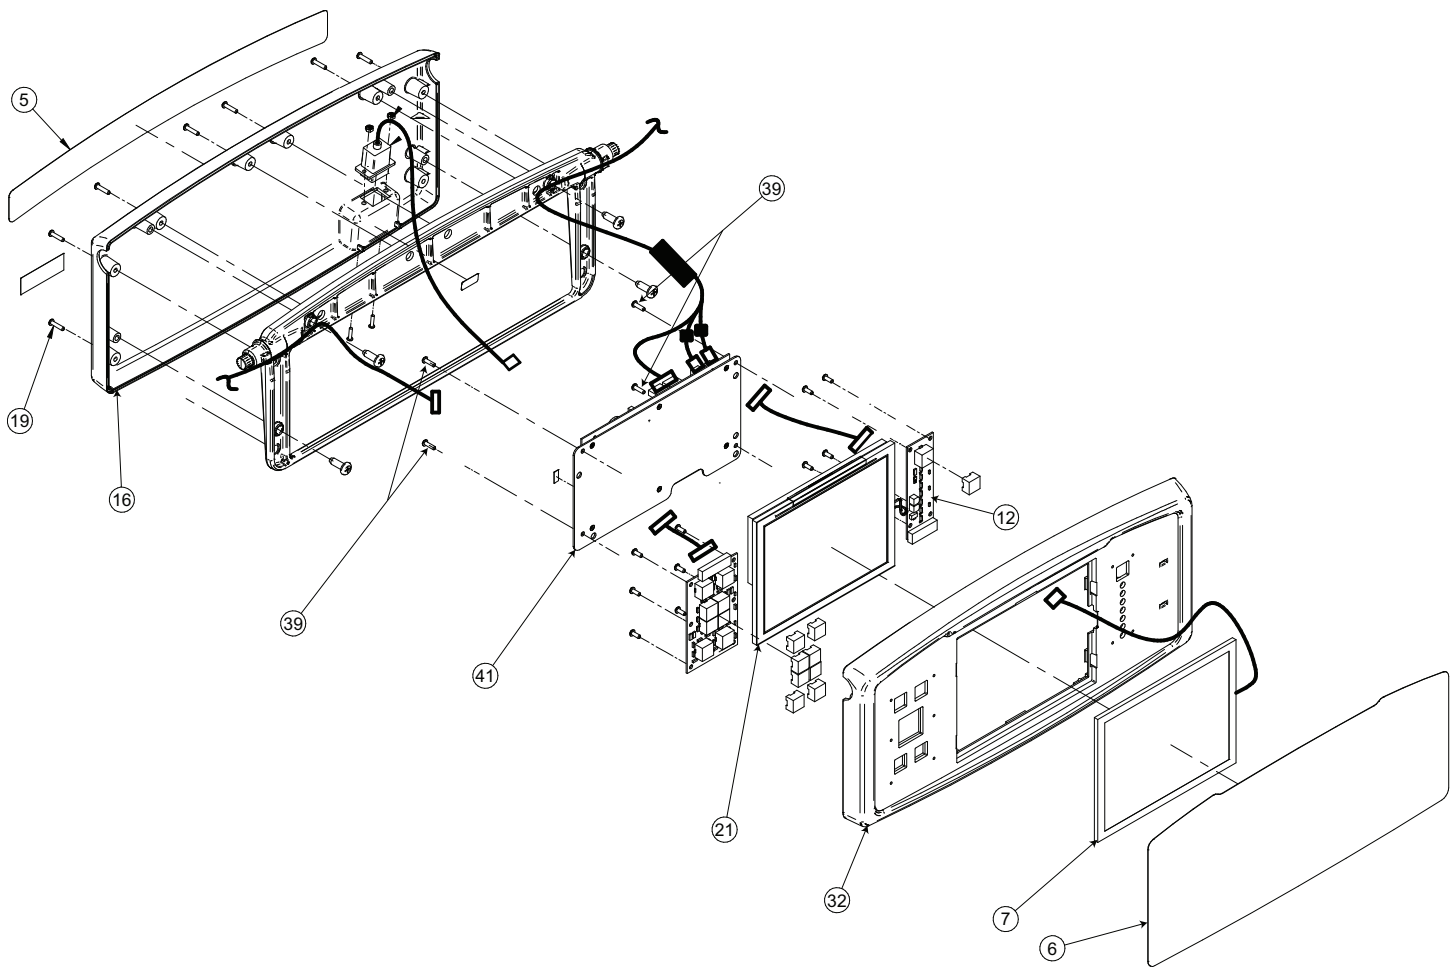

Figure 66 – Footboard assembly
2. Using a small slotted screwdriver, remove the fascia back foot control label (5) (Figure 66).
3. Using a #2 Phillips screwdriver, remove the six screws (19) that secure the front nurse panel (32) to the rear footboard control (16) (Figure 66). Save the screws.
5. Using a #2 Phillips short screwdriver, remove the two screws (19) from the bottom of the front nurse panel (32) (Figure 66). Save the screws.
10. Using #2 Phillips screwdriver, remove the four screws that secure the touch board (12) to the foot nurse panel (32) (Figure 66). Save the screws.